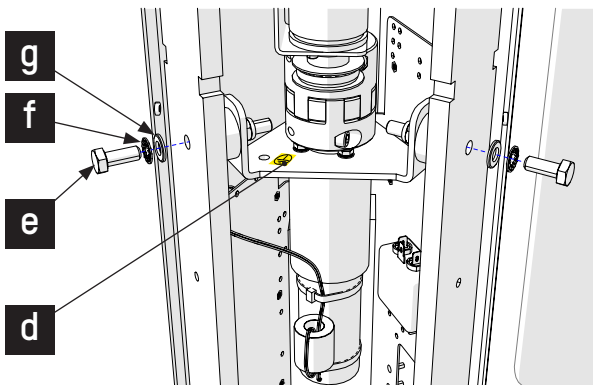

Fig. 28 - Motor replacement (Motor bracket)
6. Remove the motor bracket fasteners, screws (**e**) and washers (**f**) and (**g**) from the motor bracket (**d**) (Fig. 28);